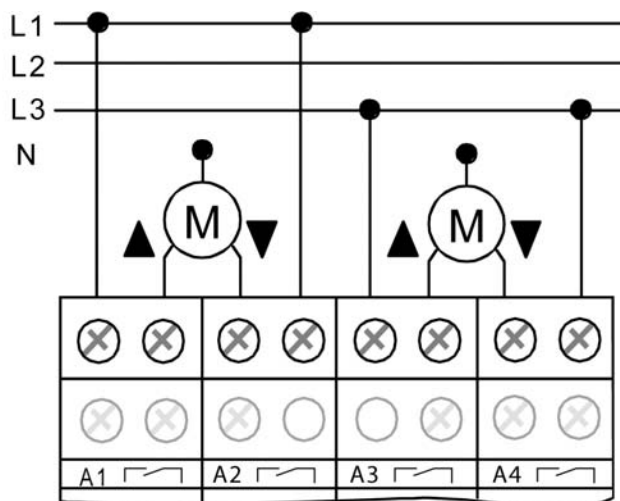

Figure 5: Electrical connection for 230 V drives in blinds operation
- Connect drive motors as shown in (Figure 5) (connection example).